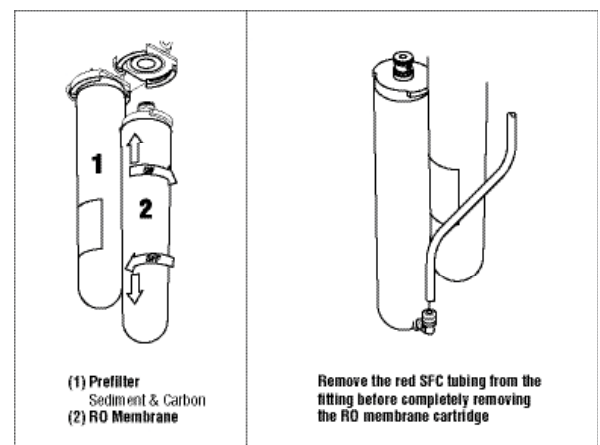

Figure 4
3) Remove the plug from the RO cartridge and attach the SFC tubing (red tube included with the included with the cartridge). See Figure 4. Connect 1/4" red tube to the SFC connector. Run the red tube to the drain. **CAUTION: DO NOT CUT THE RED SFC TUBE. It controls the flow of water to drain.**